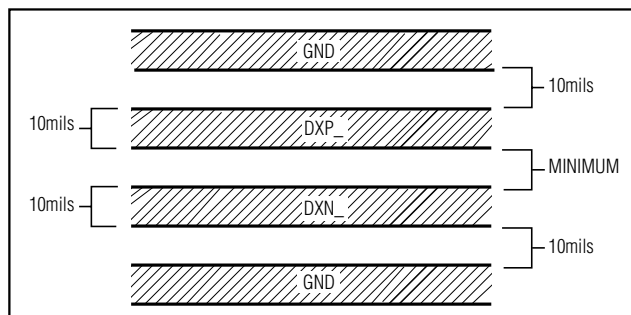

Figure 2. Recommended DXP\_/DXN\_ PC Traces
- 4) Connect guard traces to GND on either side of the DXP\_ to DXN\_ traces (Figure 2). With guard traces in place, routing near high-voltage traces is no longer an issue.
- 7) Use wide traces. Narrow ones are more inductive and tend to pick up radiated noise. The 10mil widths and spacings recommended in Figure 2 aren't absolutely necessary (as they offer only a minor improvement in leakage and noise), but try to use them where practical.